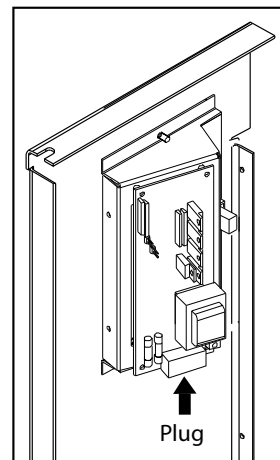

Figure 33: Control Panel Back.
After the surround has been assembled and is ready to be installed on the unit, plug the wiring harness into the control panel (see Figure 33).
5. Plug the wiring harness into the control panel (see Figure 33).